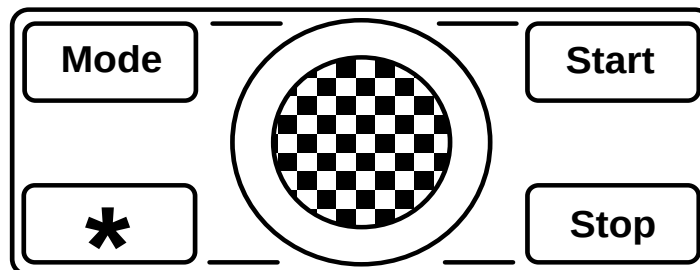

Figure 3 – The placement of the key and the control knob
2.3.3.7 The placement of the keys and the control knob is shown in figure 3.